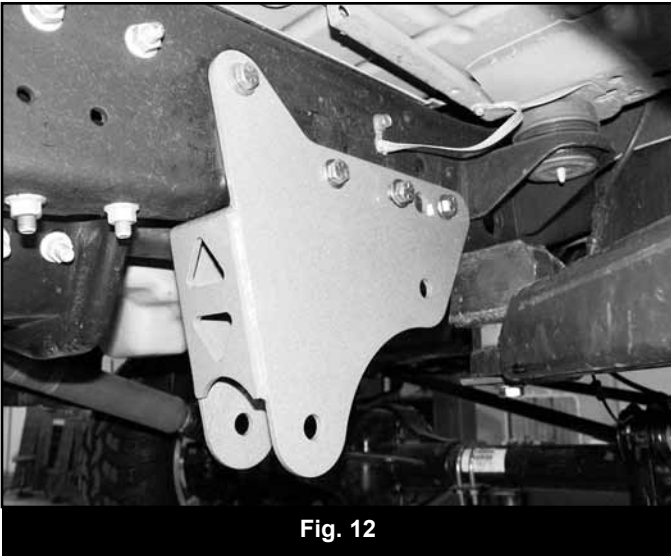

Fig. 12
40. Place the new passenger's side 4-Link bracket (02027) up to the frame and align the existing rivet holes with the corresponding holes in the bracket. Attach the bracket with 1/2" x 1-1/2" bolts, nuts and 1/2" SAE flat washers from bolt pack #432. Torque 1/2" hardware to 90 ft-lbs. (Fig. 12, 13)